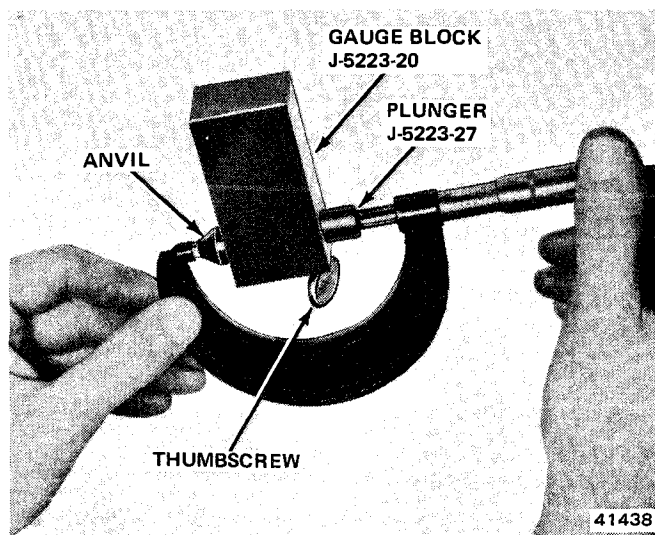

Fig. 2F-54 Measuring Gauge Block
(17) Extend clamp bolt until it presses against gauge block with enough force to prevent gauge block from moving.
(18) Loosen thumbscrew in gauge block to release plunger. When plunger contacts arbor tool, tighten thumbscrew in gauge block to lock plunger in position. Do not disturb plunger position.
(19) Remove clamp and bolt assembly from axle housing.
(20) Remove gauge block and measure distance from end of anvil to end of plunger using a 2 to 3-inch micrometer (fig. 2F-54). This dimension represents the *measured pinion depth*. Record this dimension for assembly reference.